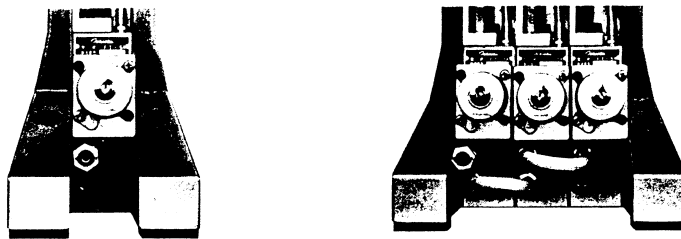

Fig. 11
[Example] In case of assembling a single column system into a 3-column one, join as shown in Fig. 11.
- 5) Thoroughly join the columns provided with vinyl hose joints on both upside and lower side by means of the hexagon bolt and nut as shown in Fig. 11. In this case, use care that the upside and lower side are parallel.
- 7) Firmly tighten the vinyl hose on the rear side in accordance with the 3-column connection as shown in Fig. 11.